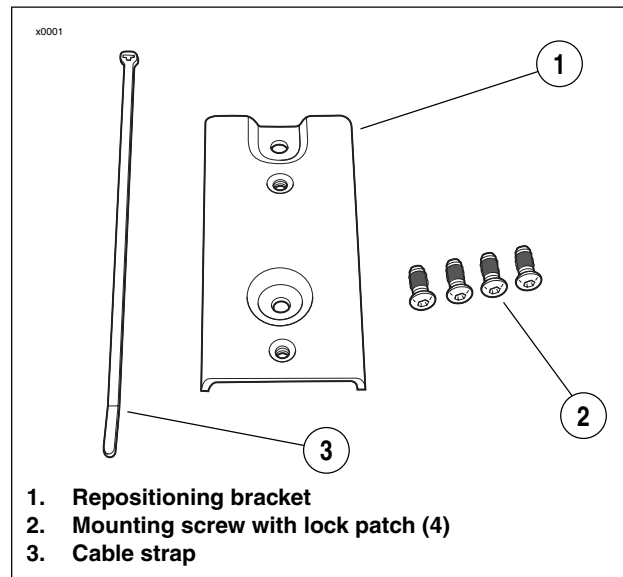

Figure 1. Safety Recall Code 0128—Kit 94507
1. Obtain recall kit (Part No. 94507). See Table 1. See Figure 1. This kit consists of a repositioning bracket, four mounting screws (with lock patches) and a cable strap.